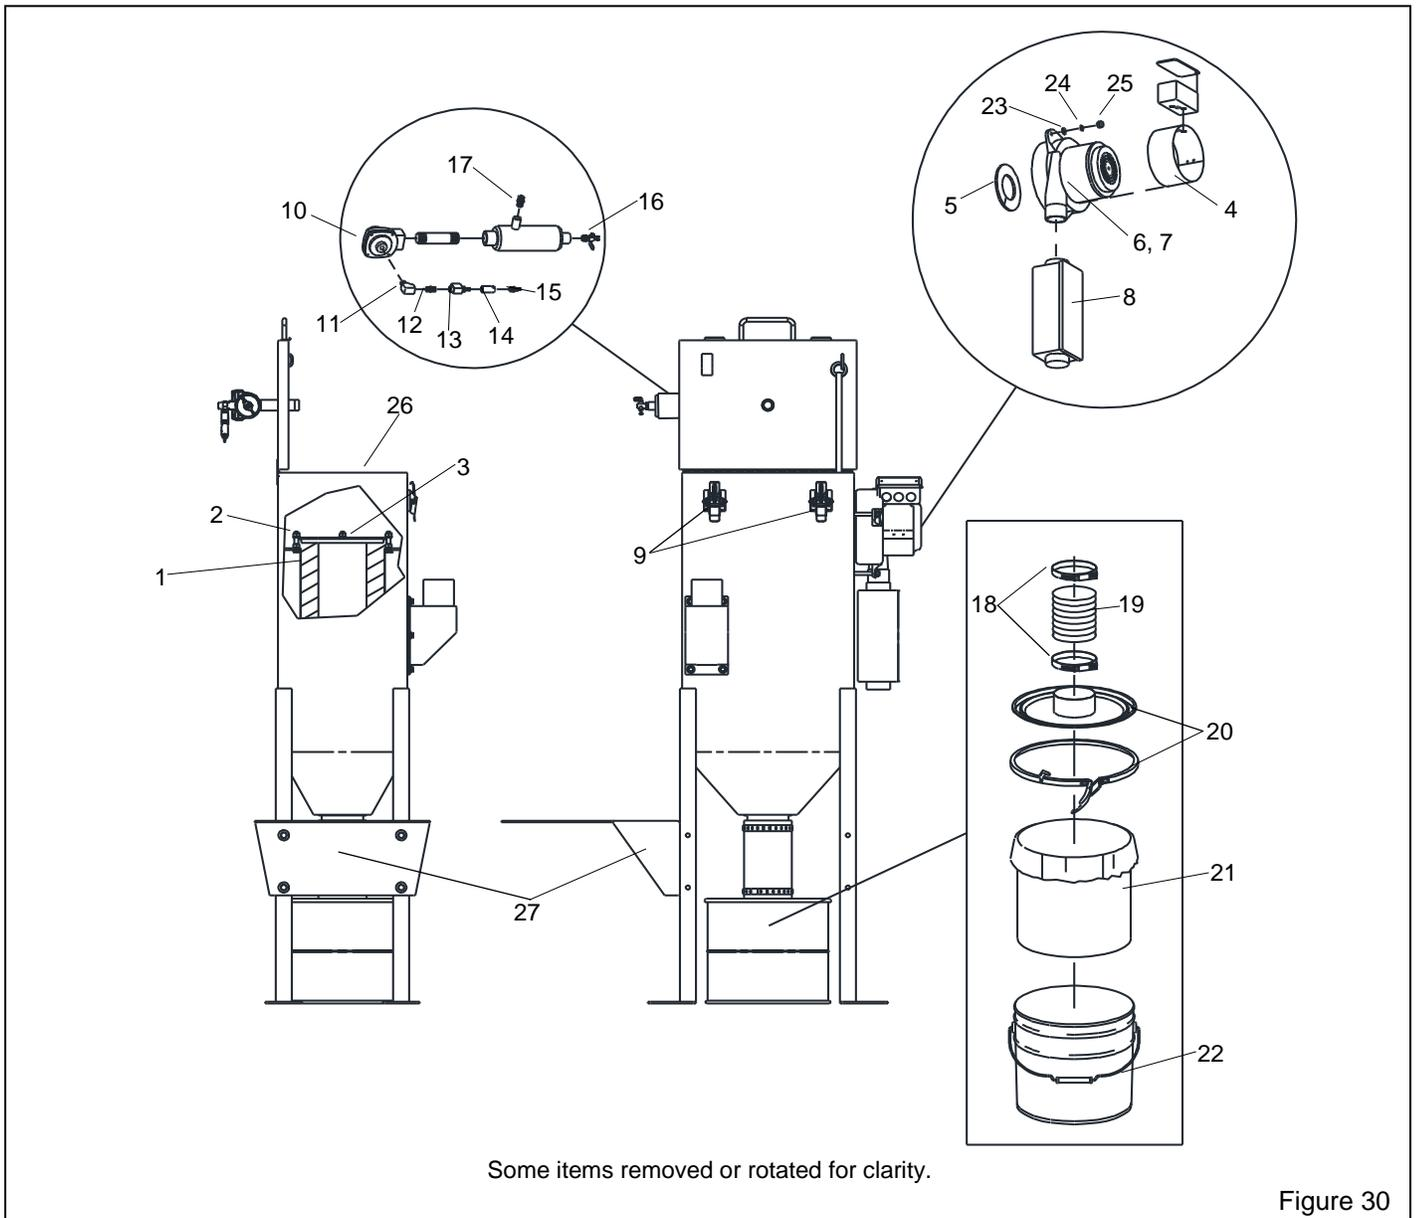

Figure 30
8.9 Dust Collector Assembly – Figure 30